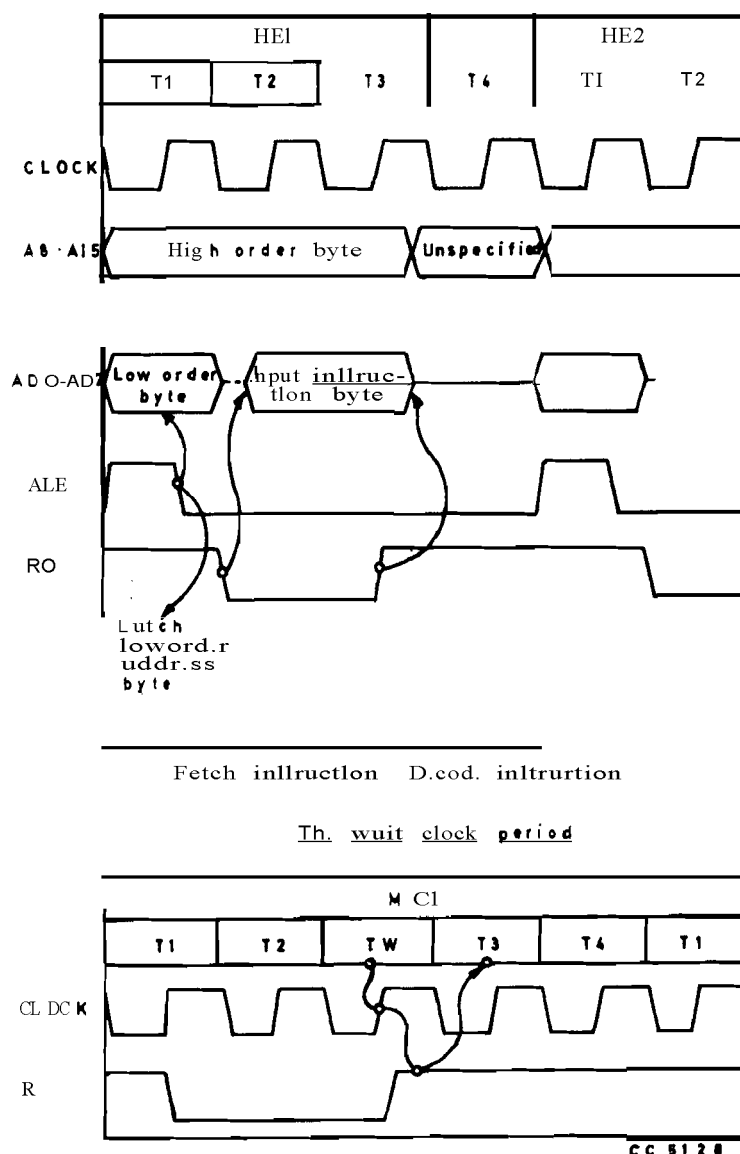

Fig. 8 Machine cycle. Wait state and Fetch instruction (AAOZ)
- (1) Program counter is cleared.
- (2) Instruction register is cleared.
- (3) Interrupts are disabled.
- (4) All tri-state bus lines are floated (ALE is not tri-state).
55. Wait states. The operation of the c.p.u. is directed into read and write sequences called machine cycles. These may contain from 3 to 6 clock cycles (or T states) with the instruction fetch MCl containing a minimum of four T states and the remainder three (see Fig. 8). A memory read must occur within three clock periods for in this time IC3 places the input into the instruction register.